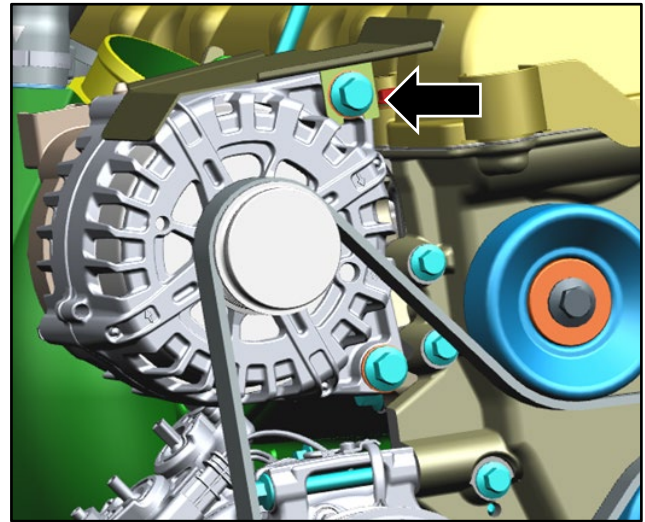

Figure 4
5. Install, but do not fully tighten, the bolt that attaches the alternator splash shield and the alternator (refer to Figure 4).